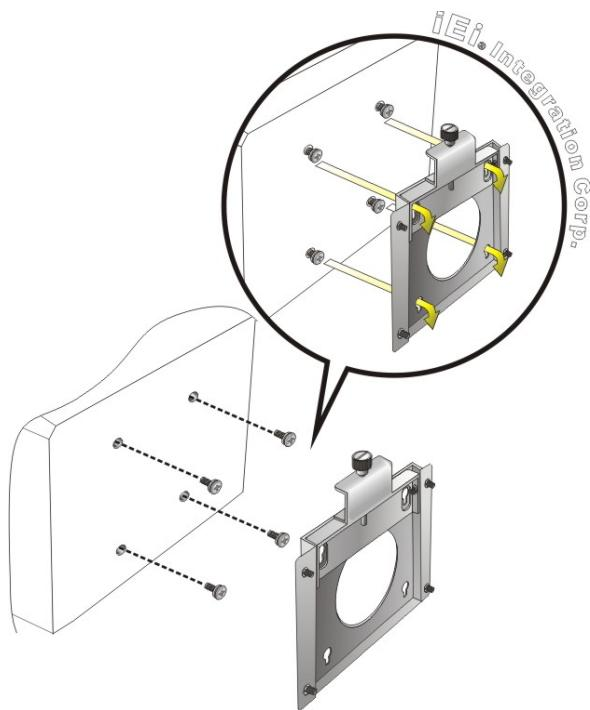

Figure 3-14: Chassis Support Screws
Step 6: Insert the four monitor mounting screws provided in the wall mount kit into the four screw holes on the real panel of the flat bezel panel PC and tighten until the screw shank is secured against the rear panel (**Figure 3-14**).
Step 8: Carefully insert the screws through the holes and gently pull the monitor downwards until the monitor rests securely in the slotted holes (**Figure 3-14**). Ensure that all four of the mounting screws fit snugly into their respective slotted holes.